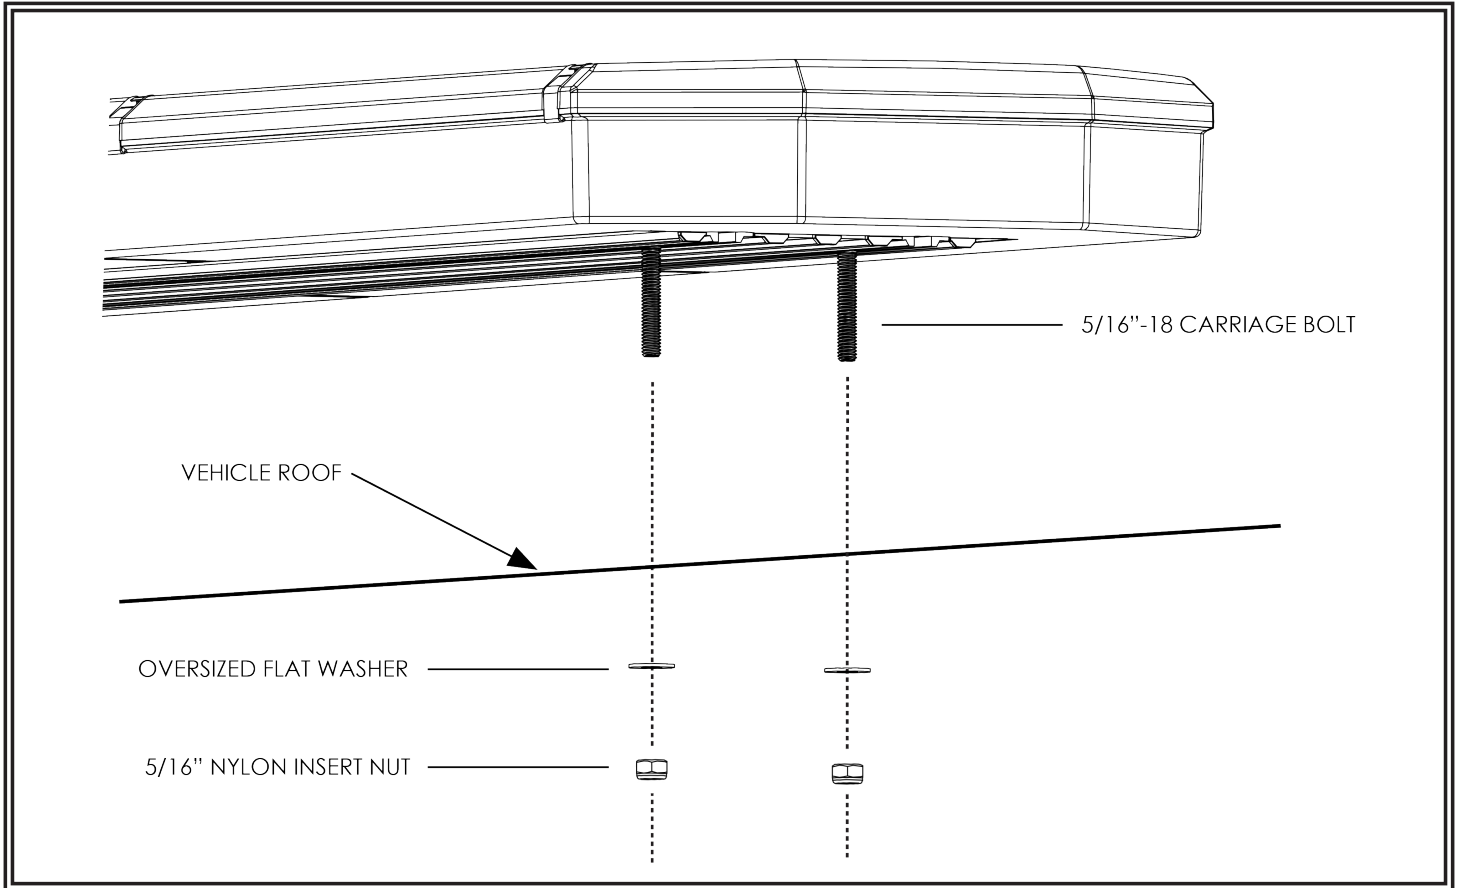

Figure 1
5. Mount the lightbar as shown in FIGURE 1 and secure the unit. See the Wiring section of this manual for further wiring instructions.